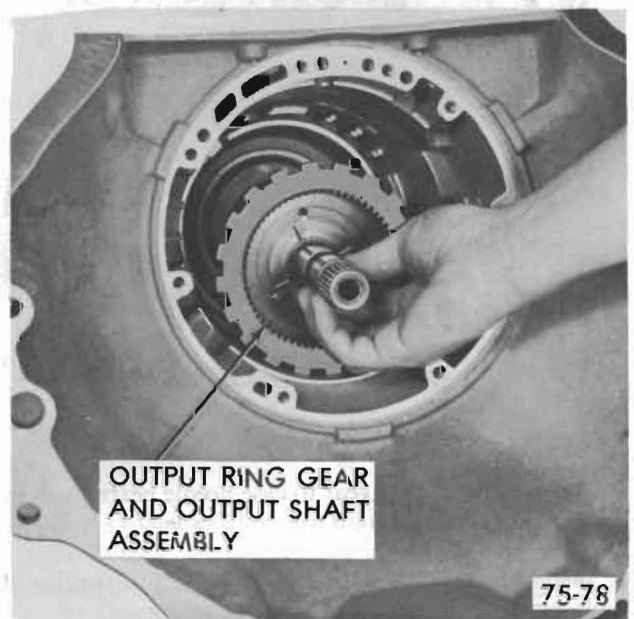

Figure 75-111
1. Remove output ring gear and shaft assembly from case. See Figure 75-111.